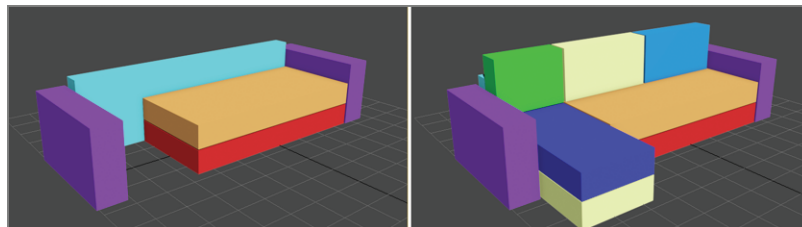

FIGURE 4.3 The first few pieces to start the couch (left); the blocked-out couch (right)
11. Create a box with Length set to 6, Width set to 96, and Height set to 27. Move it behind the seat-cushion boxes to form the backrest, as shown in Figure 4.3 (left).
The completed blocked-out couch is shown in Figure 4.3 (right). This process is getting a bit tedious, but you still need to create the backrest cushions.
19. Once the cushions are created, move them into place on the couch to finish blocking out the couch, as shown in Figure 4.3 (right).